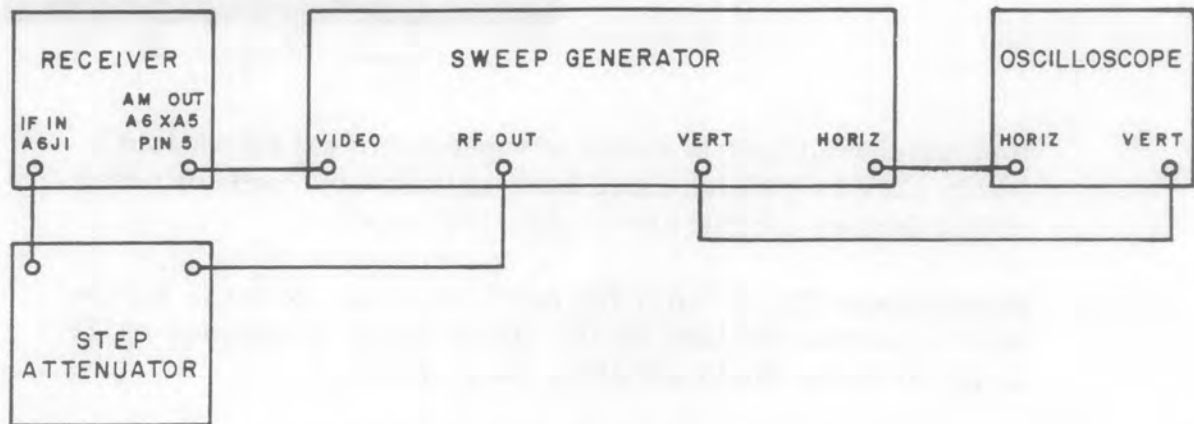
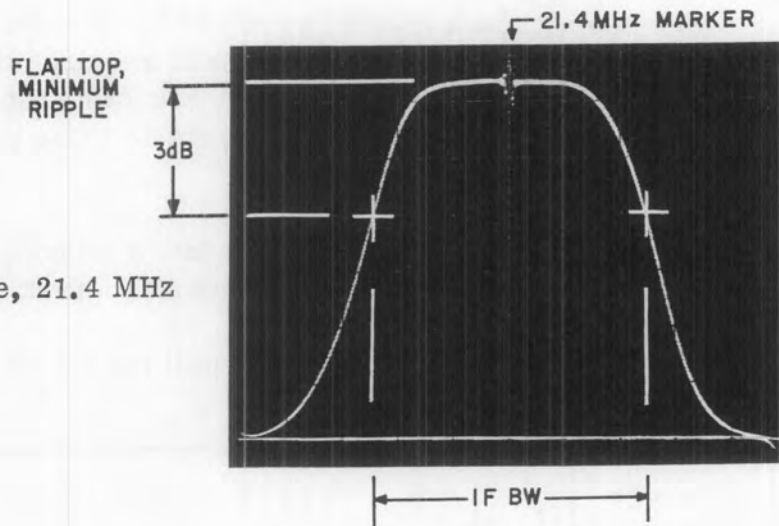
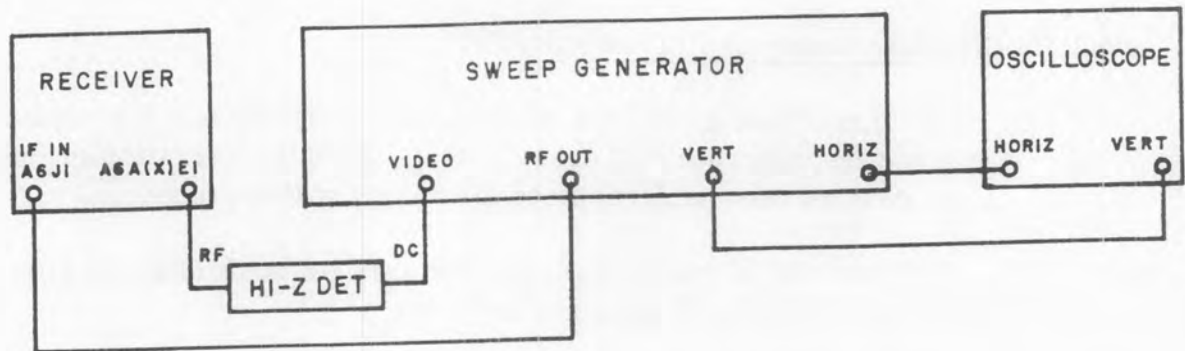

Figure 4-7. Test Setup No. 2 for IF Amplifier Alignment
Figure 4-8. Typical Response, 21.4 MHz IF Amplifier
Figure 4-9. Test Setup No. 3 for IF Amplifier Alignment
- (1) Place the receiver MODE switch in the AM/MAN position and rotate the RF/IF GAIN control fully clockwise.
- (2) Turn off the power to the receiver. Remove all three of the 21.4 MHz i-f amplifiers boards, A6A2, A6A3, and A6A4. Make a note of the locations of the boards so they may be returned to their original positions.
- (3) Connect the test equipment as shown in Figure 4-7, and turn the power on.
- (4) Set the sweep generator output to greater than 5 MHz sweepwidth, centered on a frequency of 21.4 MHz. Turn on the sweep generator's 21.4 MHz marker. Set the oscilloscope vertical sensitivity at 200 mV/cm. Adjust the sweep generator output level and oscilloscope sweep controls to obtain a 5 MHz wide response curve.
- (8) Reconnect the test equipment as shown in Figure 4-7. Turn on the power.
- (9) Check that the receiver controls are in positions described in step (1).
- (10) Rotate the IF BANDWIDTH switch fully clockwise.
- (11) Set the oscilloscope vertical sensitivity at approximately 0.2 V cm.
- (12) Sweep the sweep generator frequency to 21.4 MHz with a sweepwidth of twice the i-f bandwidth printed on the card mounted above the IF BANDWIDTH switch. Adjust the oscilloscope sweep, sweep generator output level, and step attenuator to obtain a full-scale display of the i-f response. It should resemble Figure 4-8.
- (13) Touch-up the A6A2 i-f amplifier board tuning components listed for this bandwidth in Table 4-4, for an i-f response curve as close as possible to the ideal curve shown in Figure 4-8. That is, the curve should be symmetrical about 21.4 MHz, be as flat as possible on
- (1) Perform steps (1) through (4) of the touch-up alignment procedure given in paragraph 4.7.3.1. Rotate A6A5R1 and A6A5R5 fully clockwise, then perform steps (6) and (7) of that procedure.
- (2) Perform the following alignment for each i-f bandwidth of 8 kHz, 10 kHz, 20 kHz, 50 kHz, and 100 kHz.
- (a) Connect the equipment as shown in Figure 4-7, i-f amplifier alignment test setup No. 2.
- (d) Perform step (12) of the touch-up alignment procedure given in paragraph 4.7.3.1.
- (f) Touch up the i-f amplifier board tuning components listed in Table 4-4 for this bandwidth. Adjust for an i-f response curve similar to the idealized curve shown in Figure 4-8. That is, the curve should be symmetrical about 21.4 MHz, be as flat as possible on top, and the 3 dB points should be separated by the i-f bandwidth within +20% to -10% tolerance.
- (3) Perform the following alignment for each i-f bandwidth of 200 kHz, 300 kHz, and 500 kHz.
- (b) Connect the equipment as shown in Figure 4-9, Test Setup No. 3, connecting the detector to board test point terminal E1. Turn the power on.
- (n) Connect the equipment as shown in Figure 4-7, test setup No. 2.
similar to the idealized curve shown in Figure 4-8. That is, the curve should be symmetrical about 21.4 MHz, be as flat as possible on top, and the 3 dB points should be separated by the i-f bandwidth $\pm 10\%$.
- (4) Perform the following alignment for each i-f bandwidth of 1 MHz, 2 MHz, and 3 MHz.
- (b) Connect the equipment as shown in Figure 4-9, Test Setup No. 3, connecting the detector to board test point terminal E1. Turn on the power.
- (t) Connect the equipment as shown in Figure 4-7, Test Set-up No. 2.
- (u) Touch up the i-f amplifier board tuning components listed in Table 4-4 for this bandwidth. Adjust for an i-f response curve as close as possible to the ideal curve shown in Figure 4-8. That is, the curve should be symmetrical about 21.4 MHz, be as flat as possible on top, and the 3 dB points should be separated by the i-f bandwidth $\pm 10\%$.
- (5) Adjust the i-f amplifier gain and agc threshold, using the procedure given in paragraph 4.7.4 below.